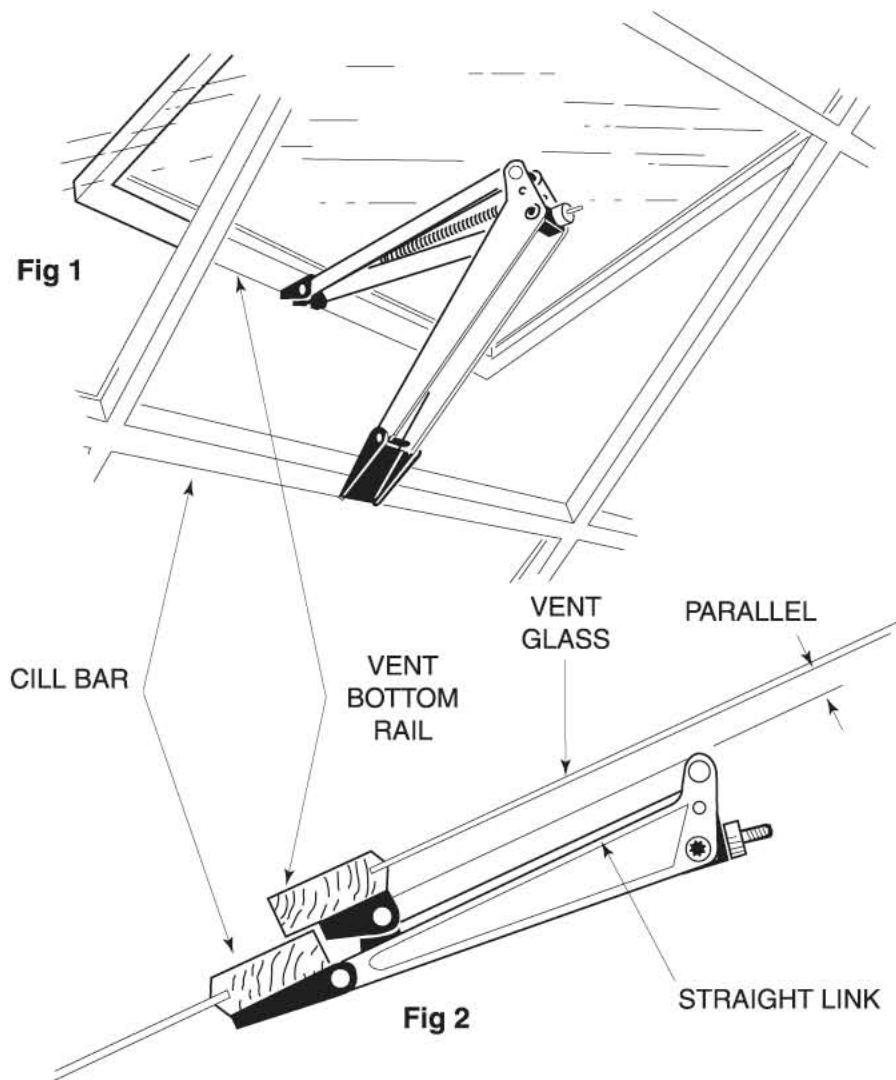
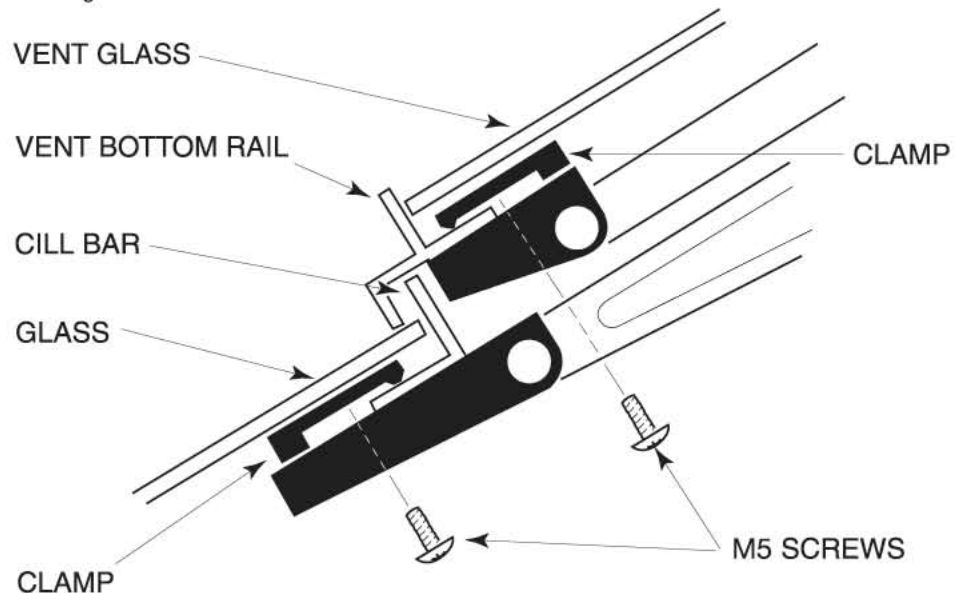

Fig 3 Aluminium framed greenhouse
Fig 4 Wood framed greenhouse
4. Because the design of greenhouse vents varies considerably, it is impossible to illustrate every type of fitting. Choose the fitting method most suitable from those shown in Fig 3 and Fig 4. However, there may be some designs to which these are not easily applicable. In these instances please contact the manufacturer for advice.